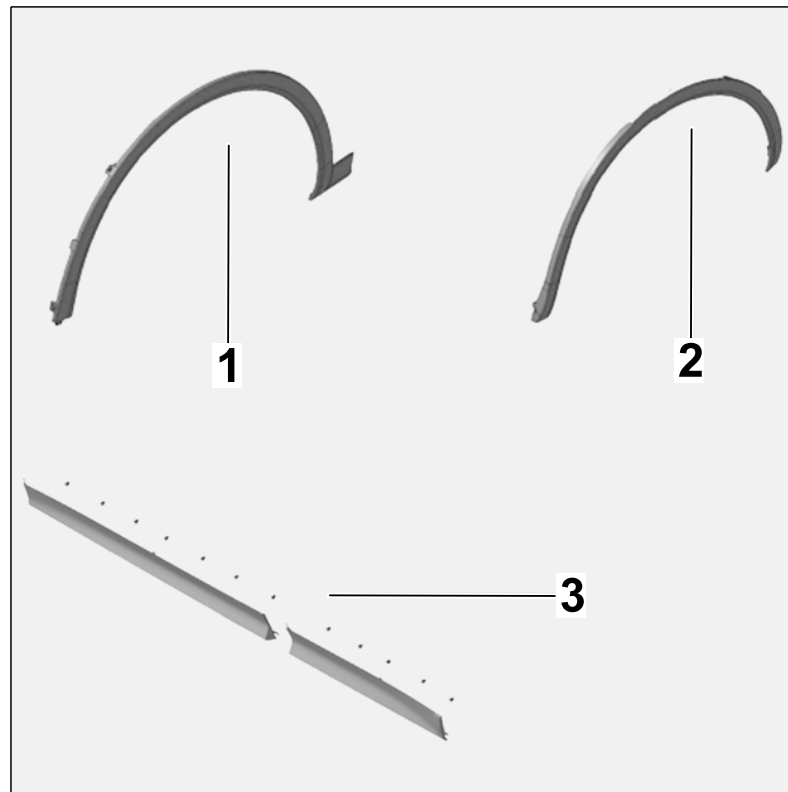

Figure 3
4.1 Remove and install door trim panels and wheel arch trims ⇒ *Figure 3*.